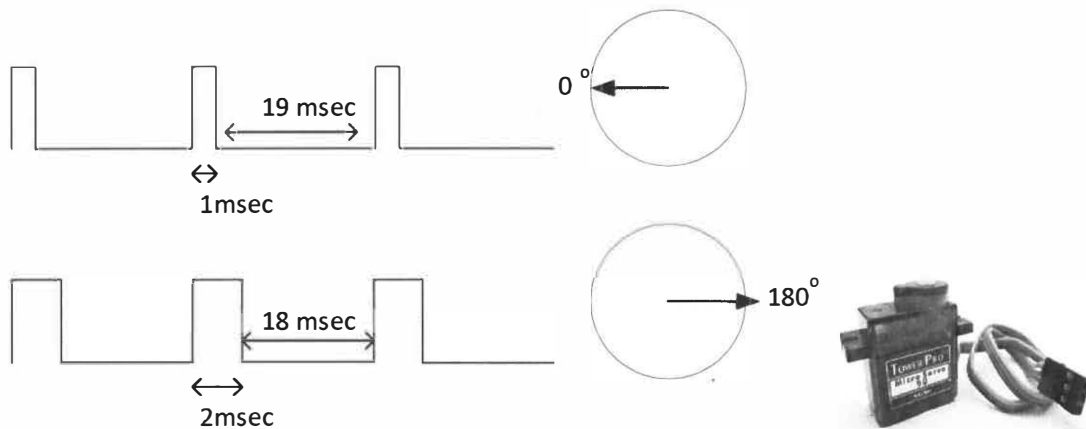

Figure B1.
- B1.** A servo motor is an actuator that allows precise control of angular position. Such servo motor is going to be controlled by using PIC18 microcontroller. In order to bring servo motor to different angular position, a periodic signal has to be provided as shown in Figure B1. For the chosen servo motor, a pulse width of 2ms followed with 18ms low period is provided continuously to maintain 180 degree position.